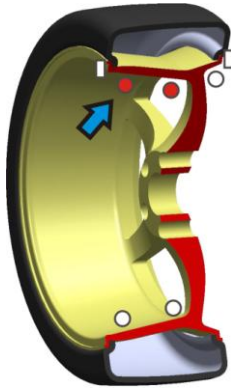

Fig. 7
4.2.6. Anticlockwise moving wheel slowly, the displays with left LED's lit up full indicate the correct angular position where to mount the counterweights, **12 o'clock position** inside, as **Fig.7**, add the counterweight.